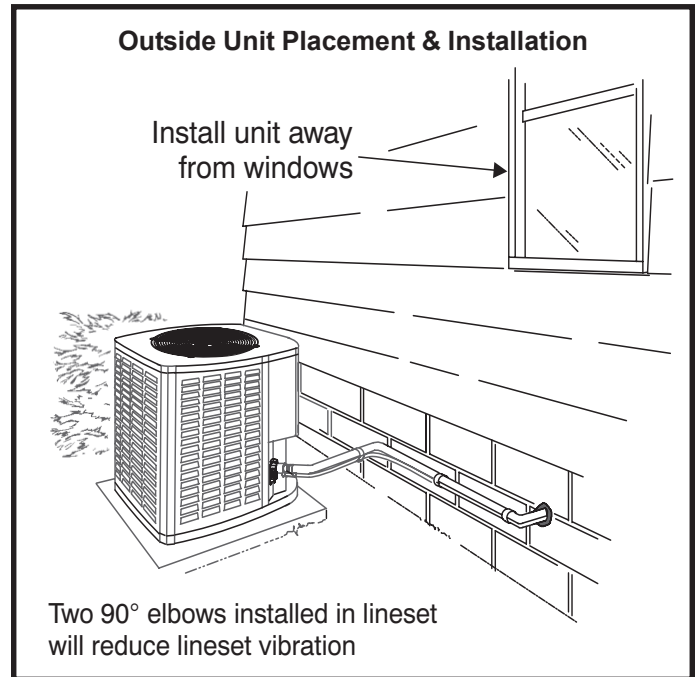

Figure 5
Be aware that some localities are adopting sound ordinances based on how noisy the unit is at the neighbor's home, not at the original installation. Install the unit as far as possible from the property line. When possible, do not install the unit directly outside a bedroom window. Glass has a very high level of sound transmission. Figure 5 on page 5 shows how to place the outdoor unit and line set to reduce line set vibration.
4. Install low voltage wiring from outdoor to indoor unit and from thermostat to indoor unit (See Figure 5).